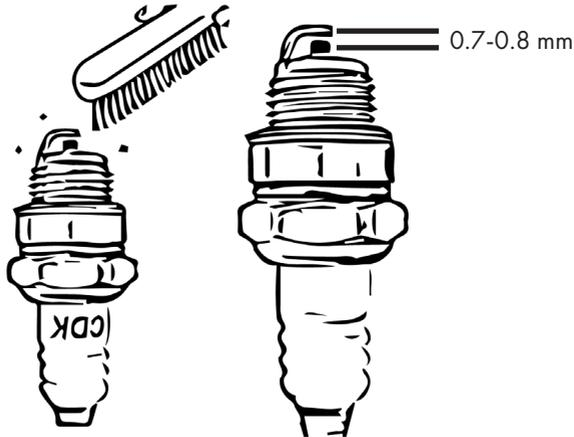

Figure 17
- Remove the deposits on the spark plug. See Fig. 17.
- Set the electrode gap to a target value of 0.7-0.8 mm. See Fig. 17.